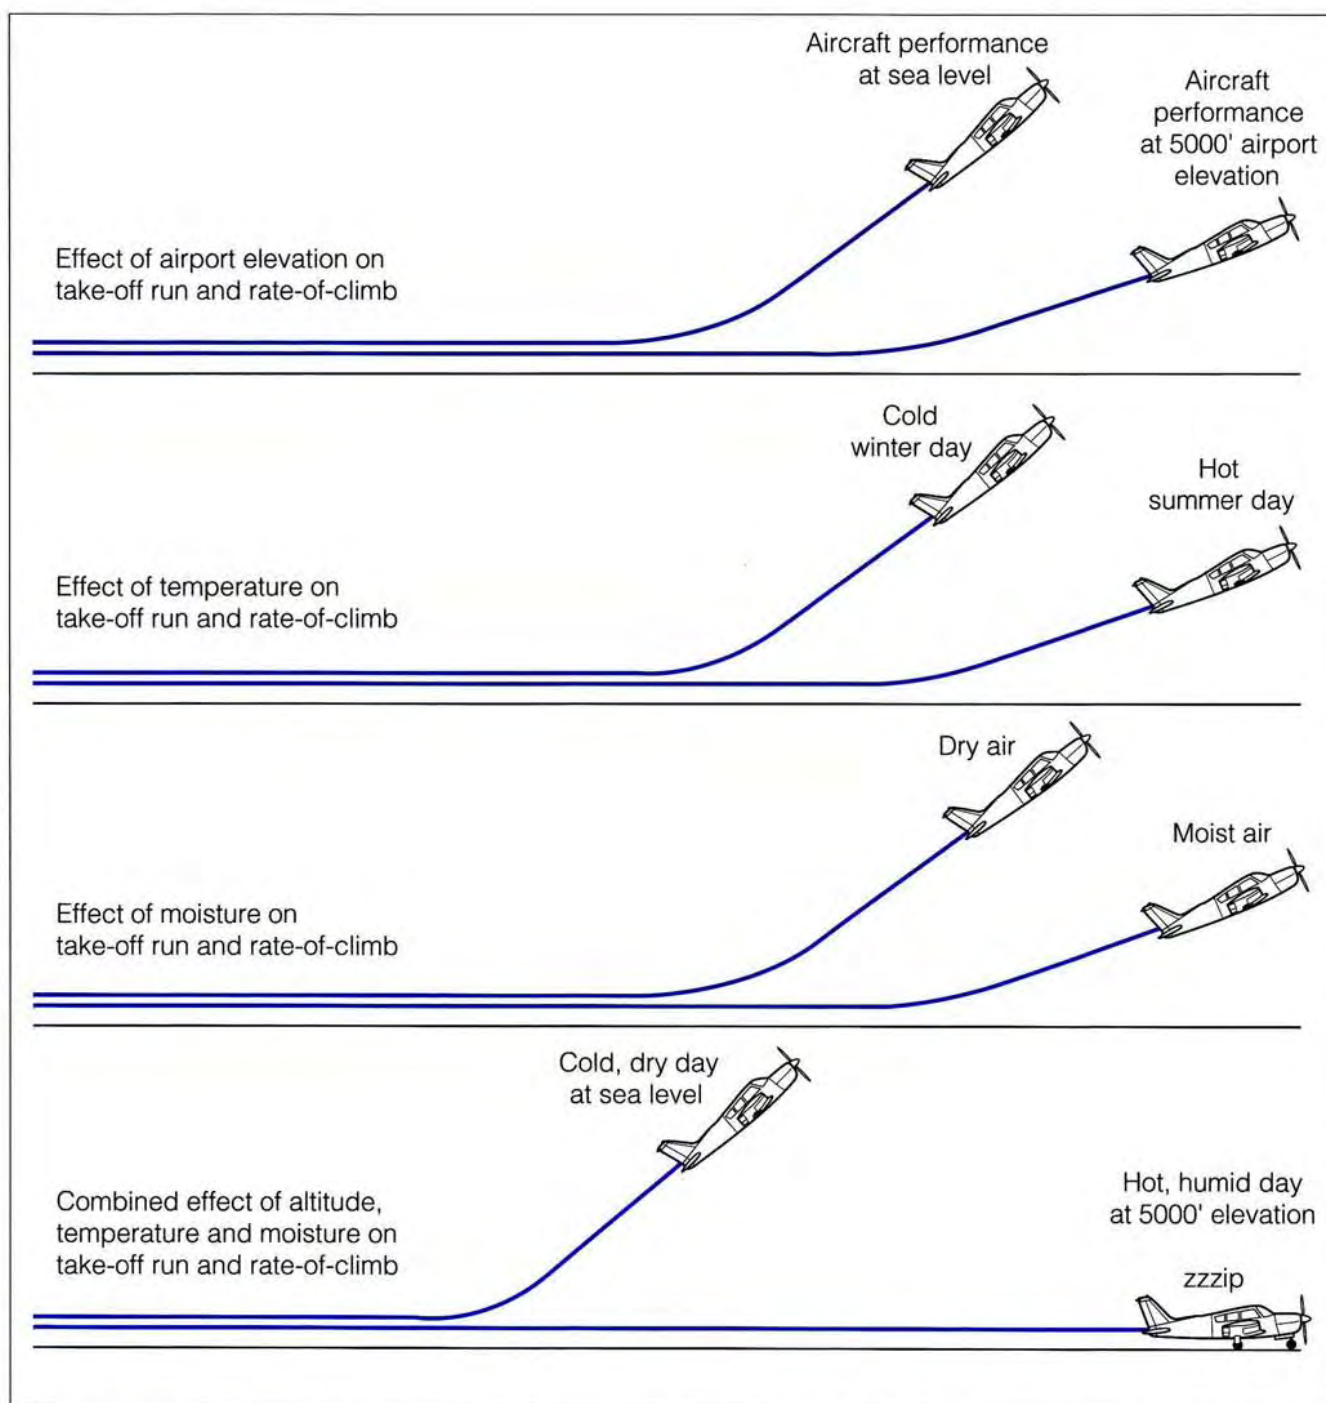

Figure 2-42 Effects of Elevation, Temperature, and Moisture on Take-off Run and Rate of Climb
4. Combination of 1, 2, and 3 = poor performance (Fig. 2-42).